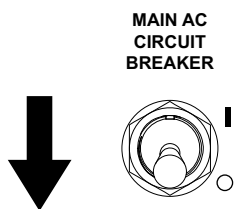

Figure 3-7. Main AC Circuit Breaker OFF (O)
5. See Figure 3-7. Switch main AC circuit breaker to OFF (O).